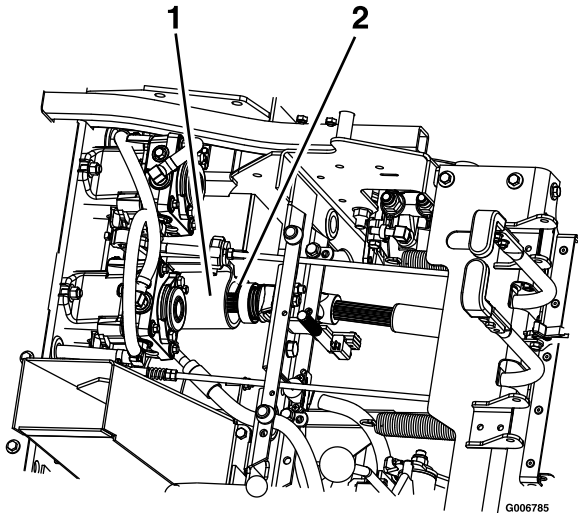

Figure 69
8. Raise the seat and disconnect the drive shaft using the quick coupler at the jackshaft (Figure 69).
3. Raise the seat and install the drive shaft onto the jackshaft (Figure 69)